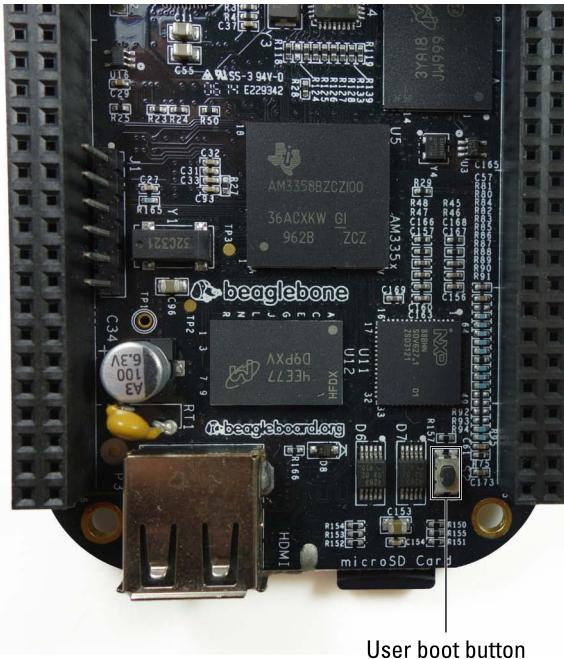

Figure 2-7:
If you’re going to boot Linux directly from a microSD card with your BeagleBone Black, you need to hold the user boot button down (see Figure 2-7) for about 5 to 7 seconds every time you power on your BeagleBone Black. Otherwise, the BeagleBone Black boots from the preinstalled OS on the onboard eMMC memory.
- 2. Hold down the user boot button of the BeagleBone (refer to Figure 2-7).**